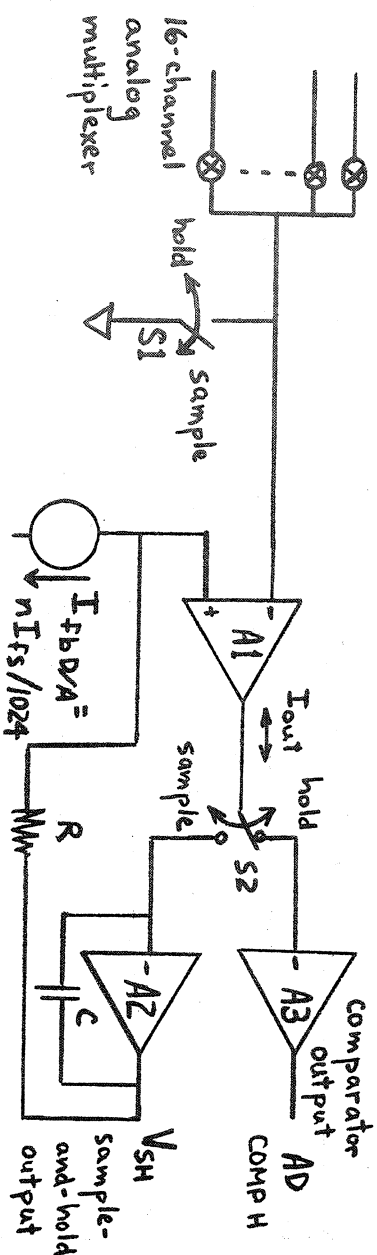

FIGURE 7: A/D Analog Block Diagram
The AR11 uses a unique auto-zeroing A/D configuration, in which the same amplifier front end is shared between the sample-and-hold and A/D comparator is such a manner as to cancel out its own offset and drift.* This configuration is shown in figure 7.
Now assume identical conditions in "sample" mode except that instead of $I_{FBD/A} = 0$ we turn on the most significant bit (MSB) so that $I_{FBD/A} = I_{FS}/2$. Under these conditions, V_{SH} tracks the selected input voltage with an offset of $RI_{FS}/2 = V_{FS}/2$. If $V_{FS} = 5$ Volts, $V_{SH} = V_{in} + 2.5$, so that an input range to -2.5 to $+2.5$ corresponds to $V_{SH} = 0$ to $+5$ Volts. By turning on the MSB during "sample" we have transformed the unipolar input range into a bipolar input range, with the MSB of the feedback D/A acting as its own bipolar offset reference source. The unipolar/bipolar bit of the A/D Status Register controls the input range by controlling the state of the MSB during "sample". 8.3 ADCS (A/D Channel Select) Page 11 of the M7809 schematic, ADCS (A/D Channel Select) contains the 16-channel analog multiplexer and switch S1 shown in figure 7 above. Each of the 16 analog input channels comes in through a 1K fusible resistor, which works in conjunction with the diodes of E5 and E11 to protect the AR11 analog multiplexers from input overvoltage conditions. The 16-channel multiplexer consists of two eight-channel PMOS multiplexer IC's E6 and E12. Each of these has three address lines A0:A2 which select one of eight switches, plus an enable line OE which enables the selected switch when high and turns off all switches when low.
Switch S1 of figure 7 is implemented by FET Q11. During "sample", ADC ENA A/D (1) L is high, so that E18-12 is low and Q10 is off; R73 pulls the gate of Q11 down to -14V HQ and Q11 is off. When it is time to do a conversion, ADC ENA A/D (1) L goes low, E18-12 goes high, and Q10 turns on, with an emitter current of 12 Volts/20K = .6 mA. This current comes out the Q10 collector and turns on D15, so that Q10-C clamps at +.7 Volts. The gate of Q11 is at ground because of the D45 diode drop, so that Q11 turns on, bringing ADCS MUX NODE to ground. This provides a zero reference for A1 (of figure 7) during the conversion. ADC ENA A/D (1) L also goes to E28-10, 12, causing E28-8, 11 to go high and E18-2, 4 to go low. Thus both ADCS AD MUX 0 ENA H and MUX 1 ENA H are low and both multiplexers (E6 and E12) are disabled during the conversion. This allows Q11 to ground ADCS MUX NODE without having to sink any current except the bias current of A1. During "sample", ADC ENA A/D (1) L is high, so that E28 pins 9 and 13 are enabled. This allows address bit ADC AD MUX 03 H to select which of the two multiplexers is enabled - E6 is enabled on MUX 0 ENA H when AD MUX 03 H is high, E12 is enabled on MUX 1 ENA H when AD MUX 03 H is low. The three low-order address bits ADC AD MUX 00:02 H are inverted by E18 to provide the address MUX A0:A2 L to the multiplexer IC's E6 and E12. Since E6 and E12 are PMOS chips, their
logic thresholds are referenced to the +14V HQ supply. Therefore MUX AØ:A2 L, AD MUX Ø ENA H, and AD MUX 1 ENA H are all 14V logic swings, implemented by open collector inverters in E18 and 20K pullup resistors to +14V HQ. 8.4 AD (Converter and Sample-and-Hold) Page 12 of the M78Ø9 schematic (AD) contains the feedback D/A converter and the following circuits from figure 7: operational transconductance amplifier A1, sample-and-hold output amplifier A2, comparator output stage A3, and switch S2. The feedback resistor R of figure 7 is actually made up of R109 and R111. The feedback D/A converter is made up of an integrated circuit 8-bit current output D/A E22 and two higher-order discrete component bits, which function in the same manner as described in the D/A converter section. The two higher-order current sources are both nominally equal to 4 Volts/1.25K = 3.2 mA. The MSB (bit 9) current source "sees" the total resistance R109 + R111, approximately 800 ohms, so that its value is 2.5 Volts, or one-half of full-scale. The bit 8 current source "sees" only R111, approximately 400 ohms, so that its value is 1.25 Volts, or one-quarter of full-scale. During "sample", ADC ENA AD (1) L is high, so that ADC UNITAR H on E17-9 controls the level of E17-10. Since the SAR (E26) was reset at the end of EOCp on the previous conversion, ADC ADØ9 H is high, and E17-13 is high for unipolar and low for
Switch S2 of figure 7 is actually the current switching network consisting of Q41 through Q47. If ADC HOLD (1) L is high, the circuit is in the sample state. In this condition the bases of Q41 and Q43 are at +5 Volts. The bases of Q42 and Q44 are at +3 Volts, set up by I12-1.5 mA and the 2K pot R114. Since the Q44 base voltage is lower than the Q43 voltage, Q44 is on and I8 takes the right-hand path. Since the Q42 base voltage is lower